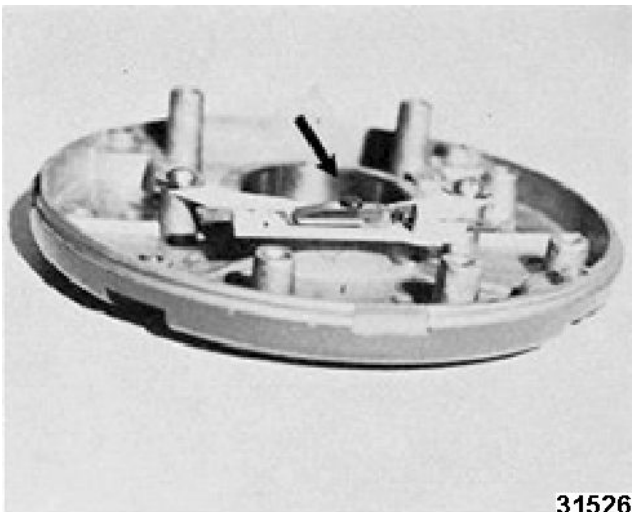

Fig. 31
- B. The copper leaf spring with the contact button should be in place under the retainer (Fig. 31). If the retainer is missing, replace the stationary part of the switch.